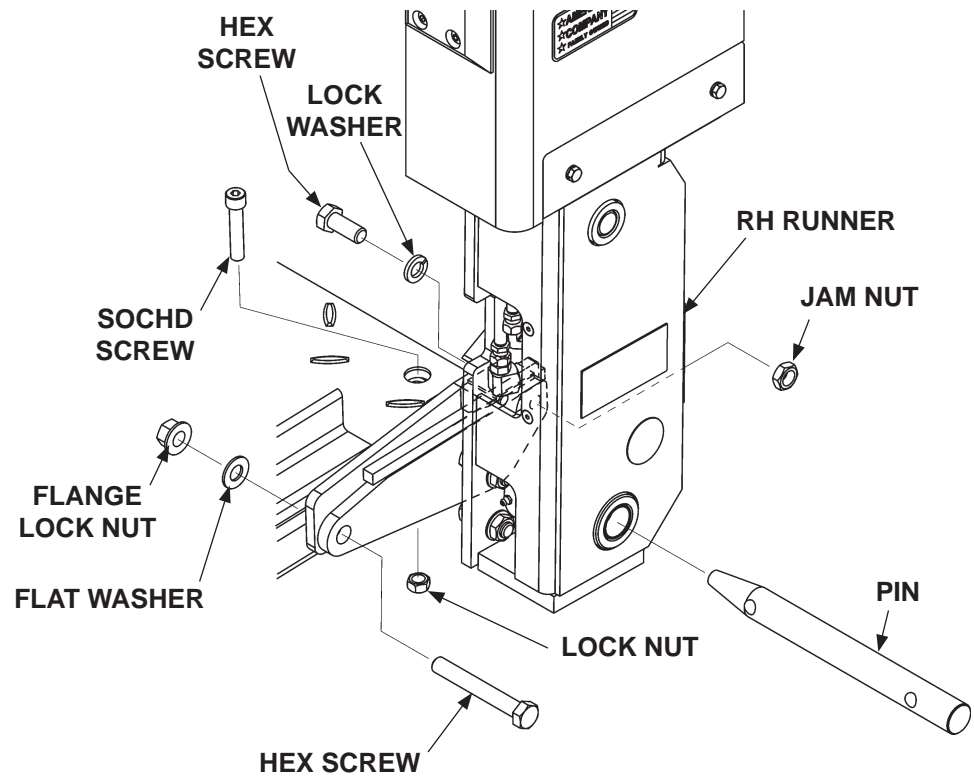

FIG. 43-1
40. Insert pin through runner, couplings and connector bar at the RH runner. Then, bolt platform and connector bar to pin (**FIG. 43-1**). Repeat for LH runner.